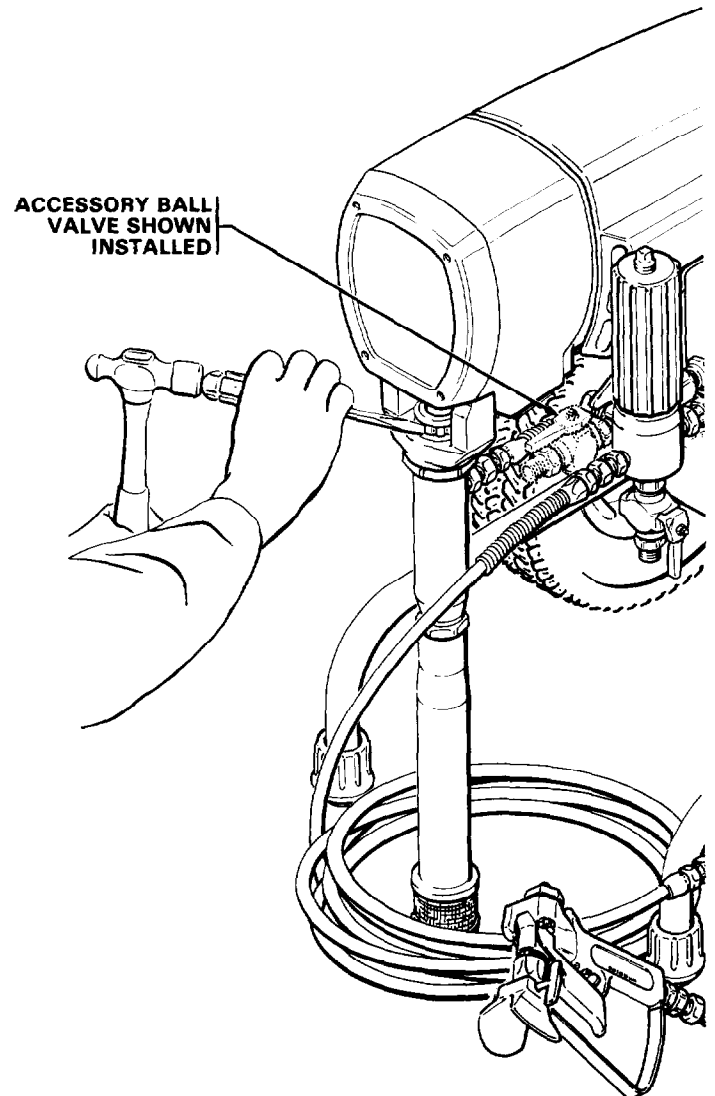

Fig 7
1. **Check the packing nut/wet-cup daily.** First follow the **Pressure Relief Procedure Warning** on page 10. Be sure the wet-cup is 1/3 full of TSL at all times to help prevent fluid buildup on the piston rod and premature wear of packings. The packing nut should be tight enough to stop leakage, but no tighter. Overtightening may cause binding and excessive packing wear. Use a screwdriver and light hammer to adjust the nut. See Fig 7.